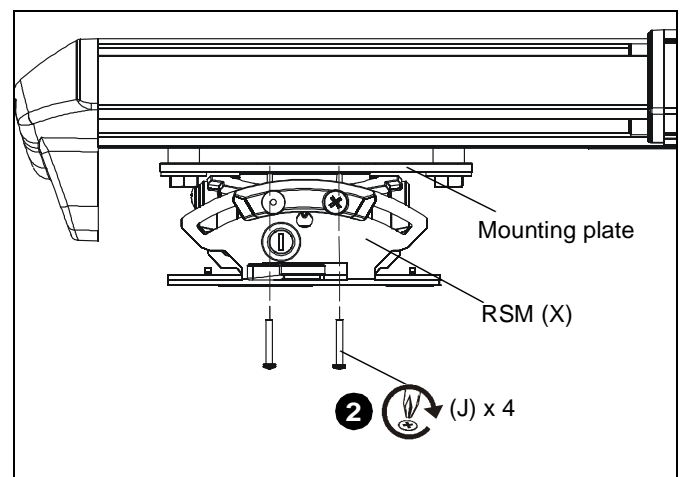

Figure 19
- Install four #10-24 x 1-3/8" Phillips pan machine screws (J) through RSM holes and into projector mounting plate. (See Figure 19)